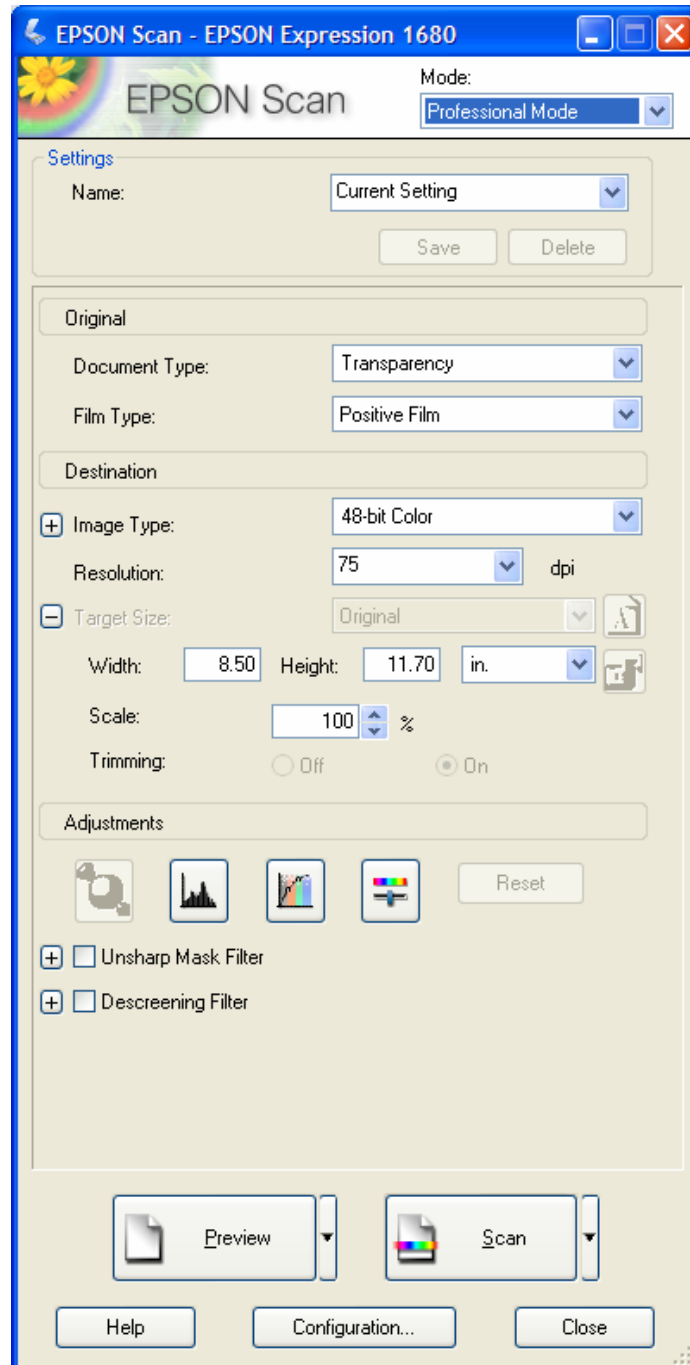

Figure 1
7. With Epson scanners having a transparency adapter you will see window similar to that in Figure 1 when you scan for the first time. Set the menu options to: